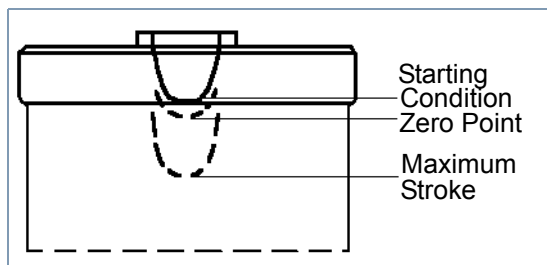

Fig. 4 Zero Point
- Detect zero point (pressure point) by slowly impressing the stem (see fig. 4).